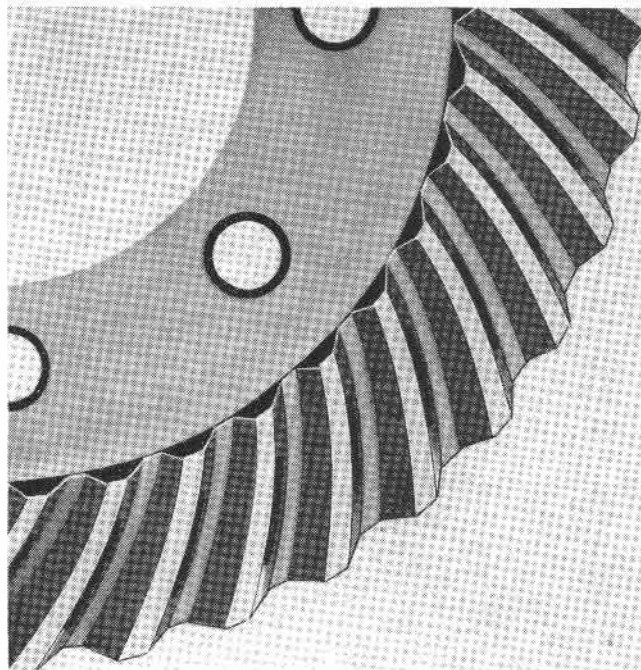

Fig. 90
- 1 - Excessive contact at bottom of tooth flank (see Fig. 90). This means that pinion is too